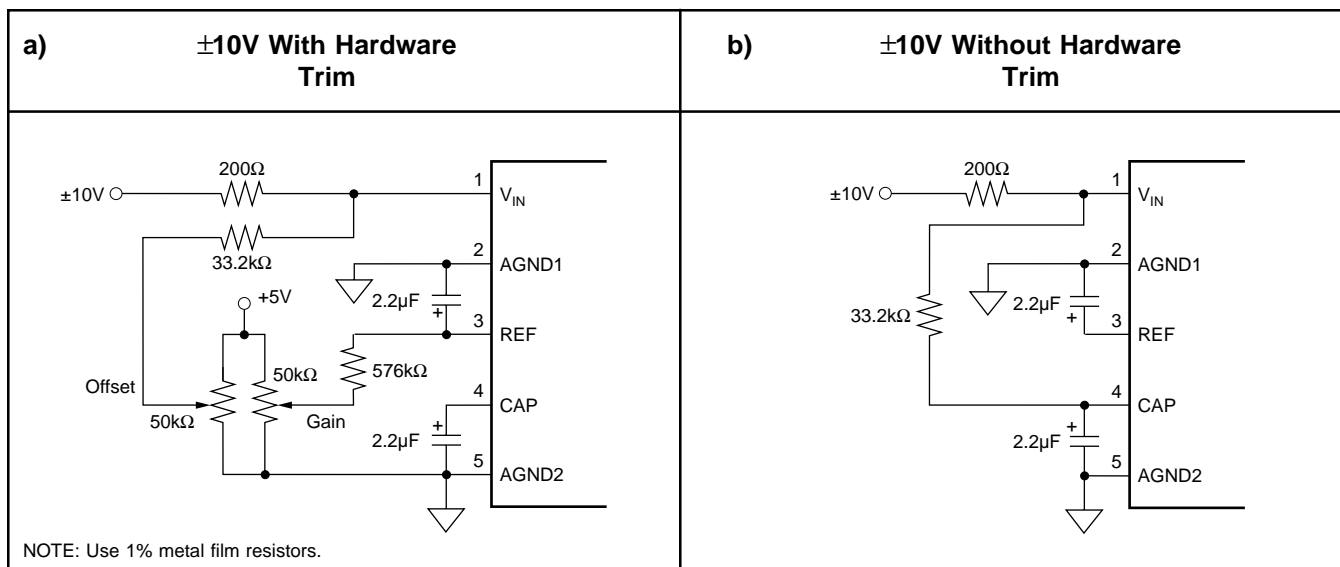

FIGURE 6. Circuit Diagram With and Without External Resistors.
The ADS7804 offers a standard  $\pm 10\text{V}$  input range. Figure 6 shows the necessary circuit connections for the ADS7804 with and without hardware trim. Offset and full scale error(1) specifications are tested and guaranteed with the fixed resistors shown in Figure 6b. Adjustments for offset and gain are described in the Calibration section of this data sheet.